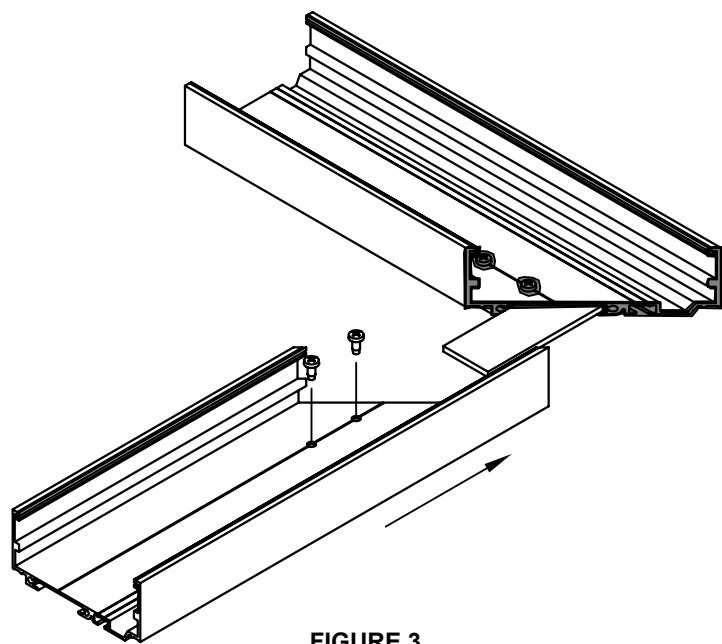

FIGURE 3
- STEP E:** Place the other mitered section on the corner plate and fasten with supplied screws. Seal over heads of fasteners. (Figure 3)